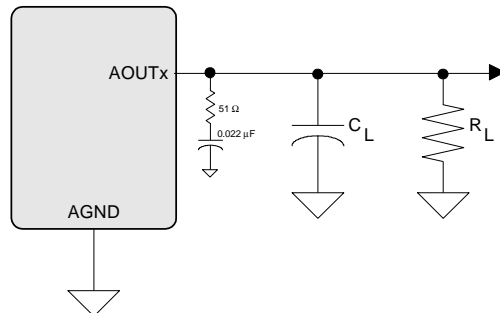

Figure 3. Headphone Output Test Load
(Test conditions (unless otherwise specified): Input test signal is a full-scale 997 Hz sine wave; measurement bandwidth is 10 Hz to 20 kHz; Sample Frequency = 48 kHz and 96 kHz; test load  $R_L = 10\text{ k}\Omega$ ,  $C_L = 10\text{ pF}$  for the line output (see Figure 3), and test load  $R_L = 16\ \Omega$ ,  $C_L = 10\text{ pF}$  (see Figure 3) for the headphone output.
Test conditions (unless otherwise specified): Input test signal is a full-scale 997 Hz sine wave; measurement bandwidth is 10 Hz to 20 kHz; Sample Frequency = 48 kHz; test load  $R_L = 10\text{ k}\Omega$ ,  $C_L = 10\text{ pF}$  (see Figure 3).
Test conditions (unless otherwise specified): Input test signal is a full-scale 997 Hz sine wave; measurement bandwidth is 10 Hz to 20 kHz; Sample Frequency = 48 kHz; test load  $R_L = 16 \Omega$ ,  $C_L = 10 \text{ pF}$  (see Figure 3).
- See Figure 3.  $R_L$  and  $C_L$  reflect the recommended minimum resistance and maximum capacitance required for the internal op-amp's stability and signal integrity. In this circuit topology,  $C_L$  will effectively move the band-limiting pole of the amp in the output stage. Increasing this value beyond the recommended 150 pF can cause the internal op-amp to become unstable.